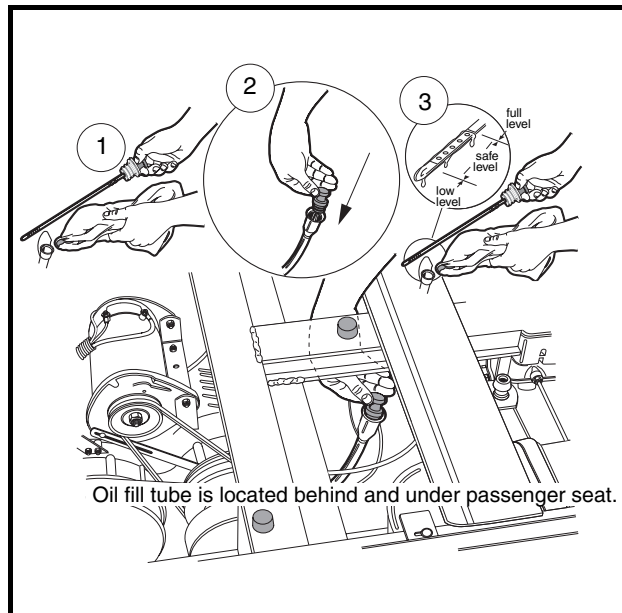
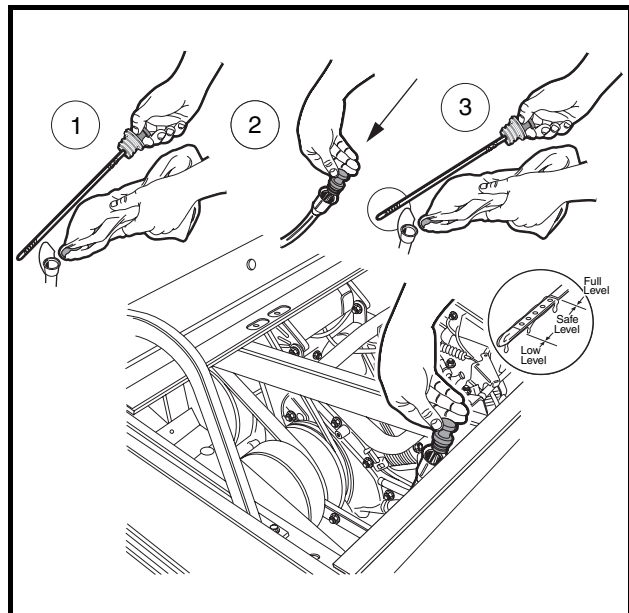

Figure 10-3 Turf 272/Carryall 272/XRT 1200 Oil Level Check
Figure 10-4 Carryall 472/XRT 1200SE Oil Level Check
1. Remove the oil level dipstick from the oil filler tube and wipe oil from the stick (**Figure 10-3, Page 10-4** or **Figure 10-4, Page 10-4**). **See following CAUTION.**